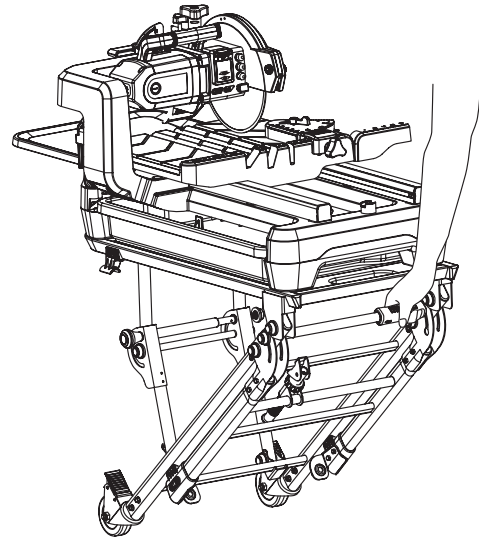
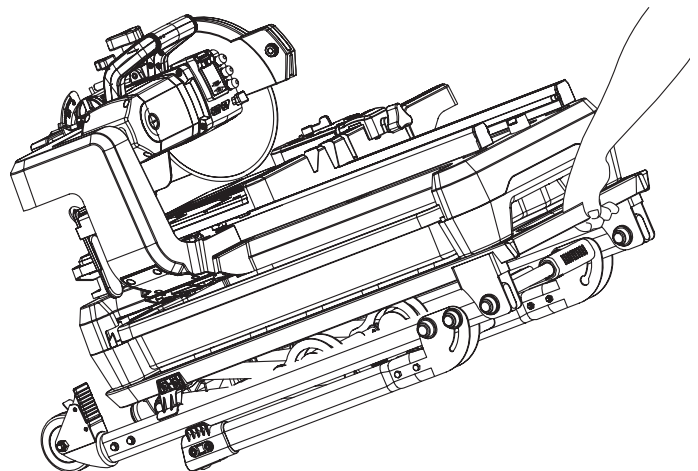

Fig. 50
Fig. 51
4. The stand may also be fully or partially folded, as shown in Fig. 50 and Fig. 51. To fold the stand, please see “Closing the Stand” on page 14.